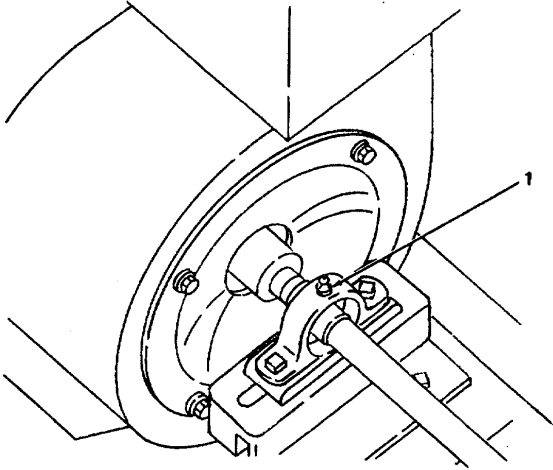

Figure 3-2. Exhaust Fan Lubrication.
- b. Exhaust Fan (figure 3-2). Apply 2 or 3 shots of BR grease to lubrication fitting (1) on exhaust fan bearing.